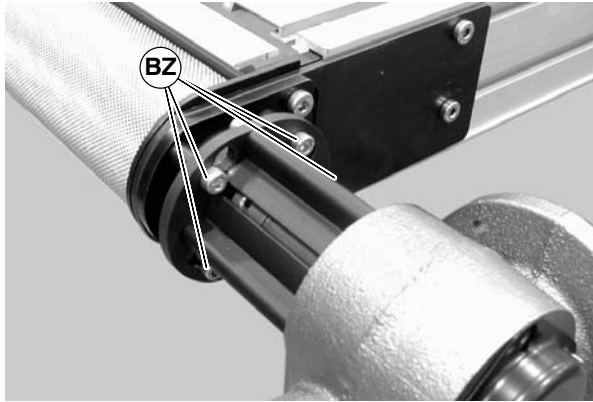

Figure 63
- 2) Loosen the four (4) lock screw (BZ of Figure 63).